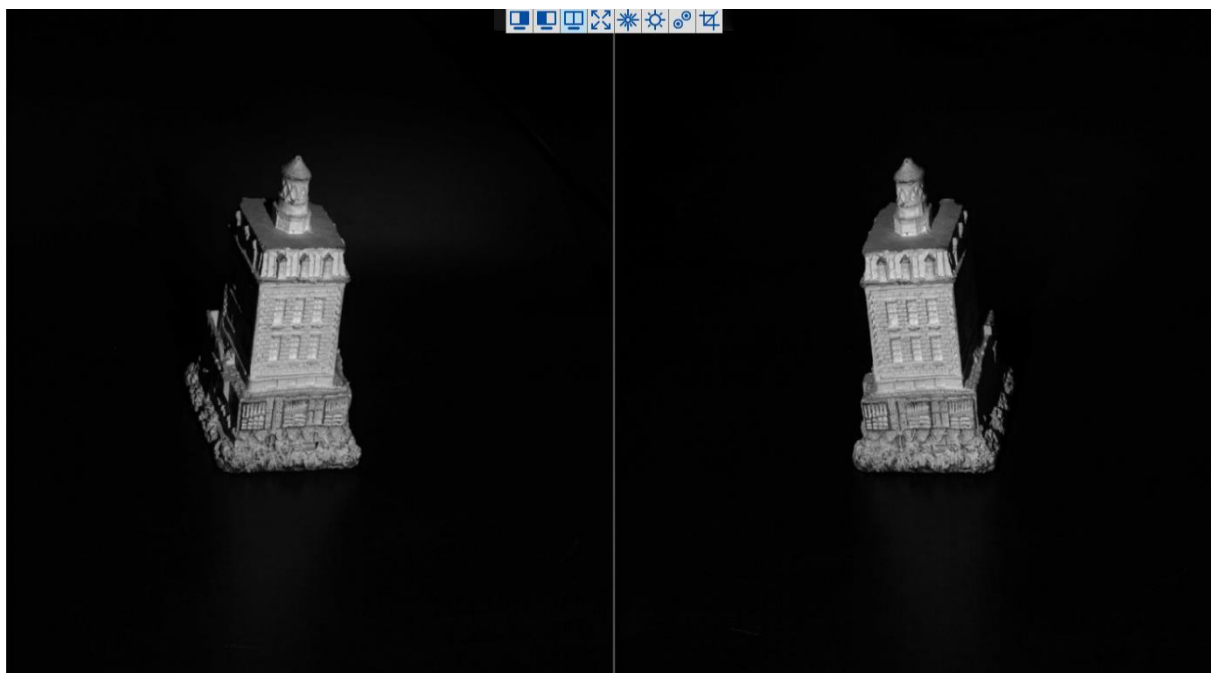
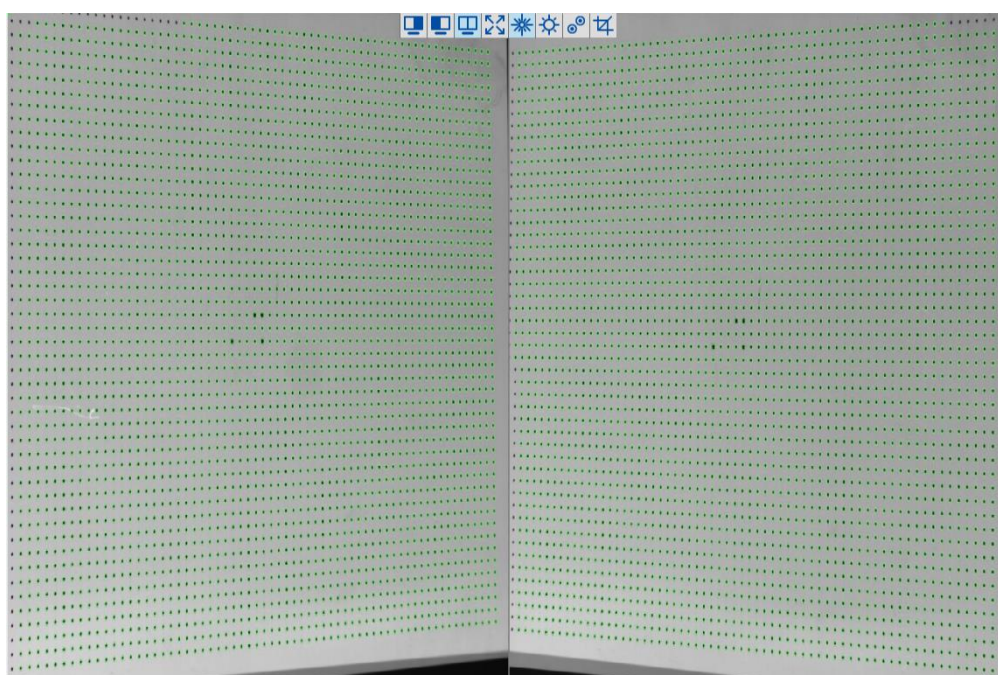

Figure 64. Preview of scan photos
Figure 65. Calibration photo preview
*Photo preview only works for scans (which have photos) in the Scans group. The scans (meshes) in the Meshes group do not have the corresponding photos, therefore it is not possible to bring up the preview window. The photo preview is also visible for the calibration photos (cf. the calibration section in this manual (Figure 64 and Figure 65)).*